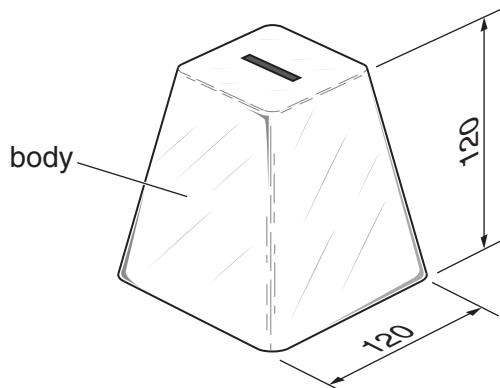

Fig. 4
- 3 Fig. 4 shows a child's moneybox. The body of the moneybox is made from vacuum formed plastic.